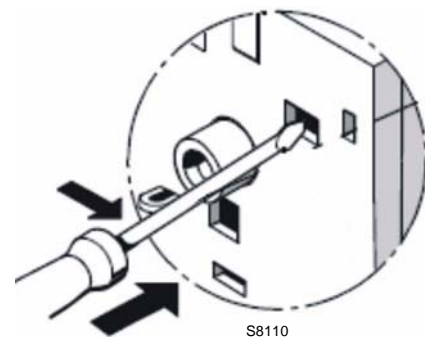

Fig. 27
- **Contact test NC (95-96) and NO (97-98)(Fig. 27)**